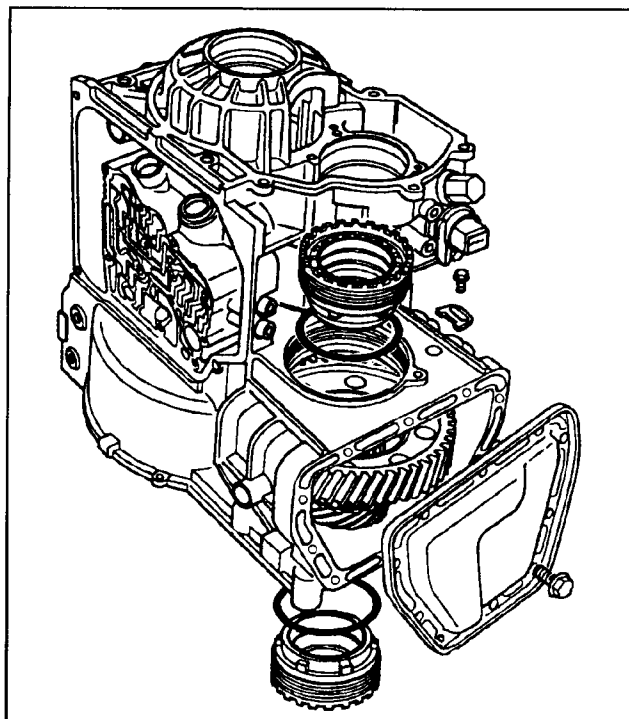

Figure 97
16. Remove the hold down bolt and bracket for the differential bearing housing. Remove the housing by turning counter clock wise and lift away from the transaxle. If the bearings are not to be replaced during overhaul, count the number of turns needed to remove the housing (See Figure 97).